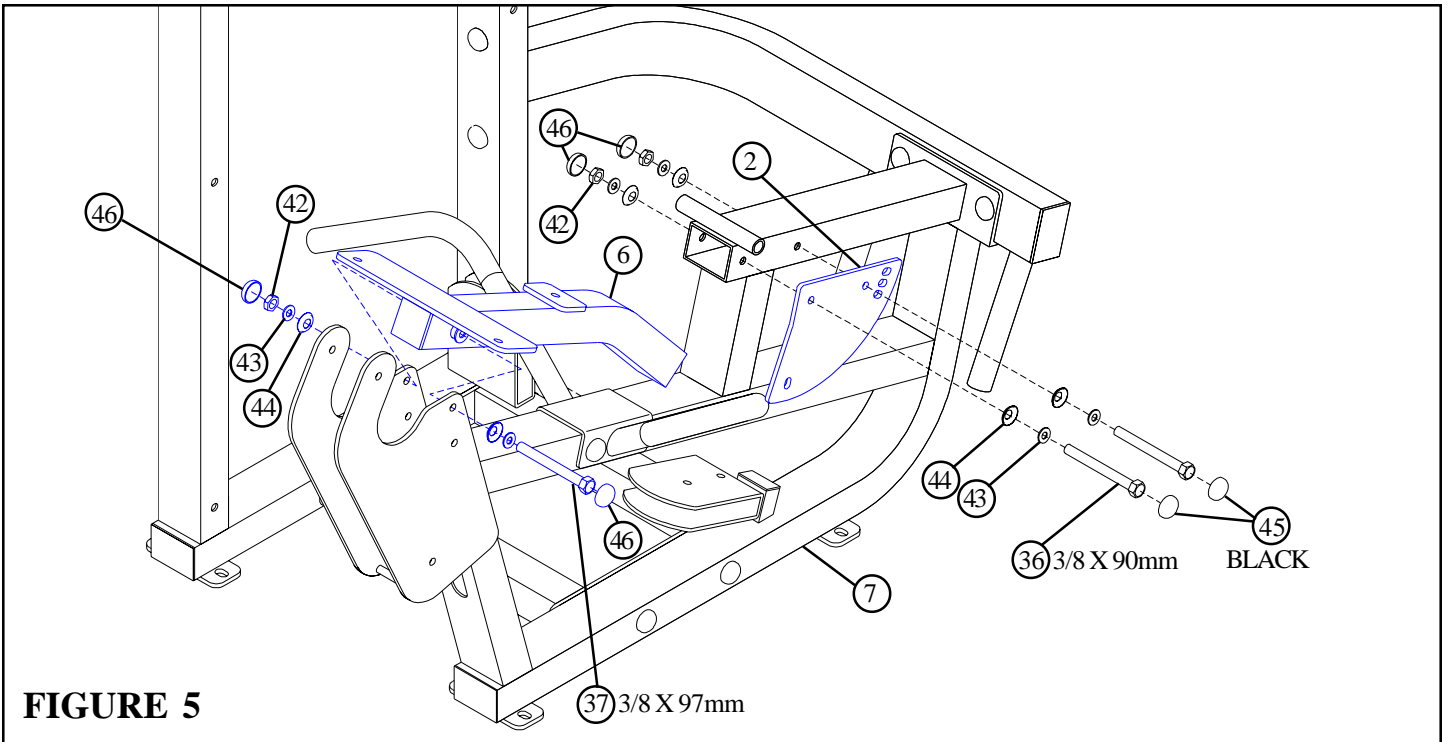

FIGURE 5
- **SECURELY** assemble the LEG CURL/EXT SEAT (6) to the FRAME (7) using two RH CAPS (46), one 3/8 X 97mm BOLT (37), two 3/8" SAE WASHERS (43), two 3/8" RH WASHERS (44), and one 3/8" LOW HEIGHT LOCK NUT (42) as shown in FIGURE 5. **(NOTE: Tighten connections enough to remove play, yet allowing the part to rotate freely.)**
- **SECURELY** assemble the ADJUST PLATE (2) to the FRAME (7) using two BLACK RH CAPS (45), two RH CAPS (46), two 3/8 X 90mm BOLTS (36), four 3/8" SAE WASHERS (43), four 3/8" RH WASHERS (44), and two 3/8" LOW HEIGHT LOCK NUTS (42) as shown in FIGURE 5.